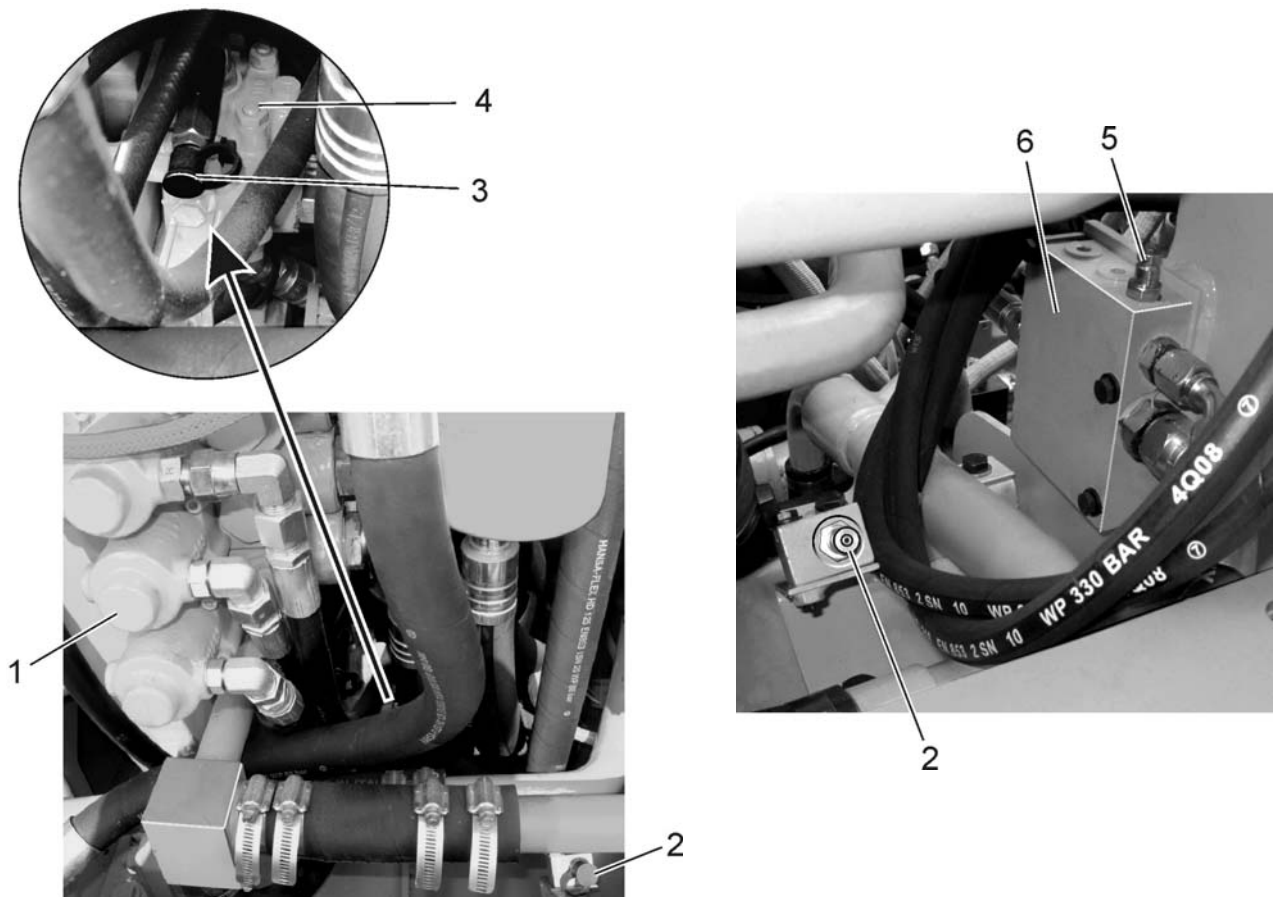

Fig. 10.7. Pressure Check Connect Port
1. Open the door from right side and connect an 40 [MPa] gauge with quick coupler (see SERVICE /SPECIAL TOOLS in this Section) to the quick disconnect fitting (3, Fig. 10.7).
NOTE: *Tilt/pitch attachment only; because of relief poppets in blade tilt/pitch cylinders, one of blade tilt control valve supply line to cylinder must be capped or piston rod must be stopped in the middle position. Lower blade to ground. Open the door from right side and disconnect end RH (or LH) tilt hose from tilt control valve (4, Fig. 10.7). Install a plug with O-ring and secure with hose split flanges at control valve. Cap disconnected hose.*
Open the door from right side and connect an 40 [MPa] gauge with quick coupler (see SERVICE /SPECIAL TOOLS in this Section) to the quick disconnect fitting (2, Fig. 10.7) and proceed as follows.
NOTE: One spool control valve only; because of relief poppets in blade lift cylinders, raise supply line must be capped or piston rod must be stopped in the middle position. Lower blade to ground. Open the door from right side and disconnect end raise hose from control valve (1, Fig. 10.7). Install a plug with O-ring and secure with hose split flanges at control valve. Cap disconnected hose.
1. Open the door from right side and connect an 4 [MPa] gauge with quick coupler (see SERVICE /SPECIAL TOOLS in this Section) to the quick disconnect fitting (5, Fig. 10.7) and proceed as follows.